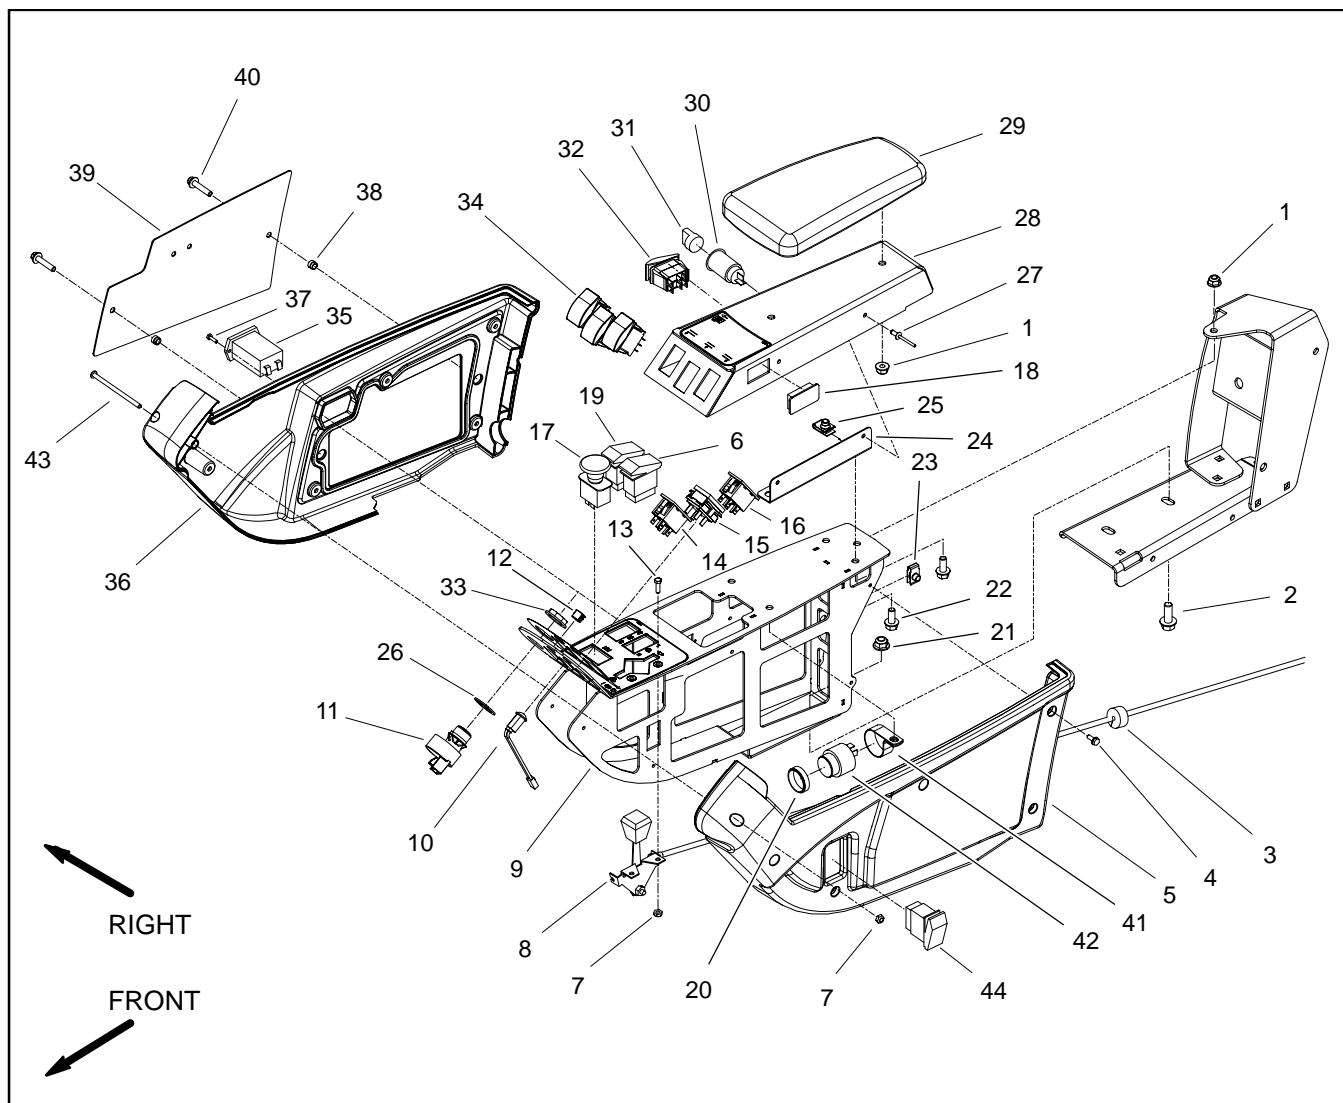

Figure 5
Disassembly (Fig. 5)
2. Remove two (2) flange head screws (item 40) and then cover plate (item 39) from outside of console arm. Locate and retrieve two (2) spacers (item 38).
3. At front of console arm, remove screw (item 43) and lock nut (item 7) that secure console arm covers to each other.
4. Remove five (5) washer head screws (item 4) that secure each cover to console arm panel.
5. Remove console arm covers from machine. As LH cover (item 5) is removed from console arm, unplug wire harness connector from headlight switch if equipped.
6. Remove electrical components from console arm as needed using Figure 5 as a guide.
7. If necessary, remove console panel and supports from machine using Figures 5 and 6 as guides.
Assembly (Fig. 5)
1. Install all removed electrical and console arm components using Figure 5 and 6 as guides.
2. Position covers to console arm. As LH cover (item 5) is placed, plug wire harness connector to headlight switch if equipped.
3. Secure each cover to console arm with five (5) washer head screws (item 4). Install screw (item 43) and lock nut (item 7) to secure covers at front of console arm.
4. Position cover plate and spacers to outside of console arm. Secure with two (2) flange head screws.